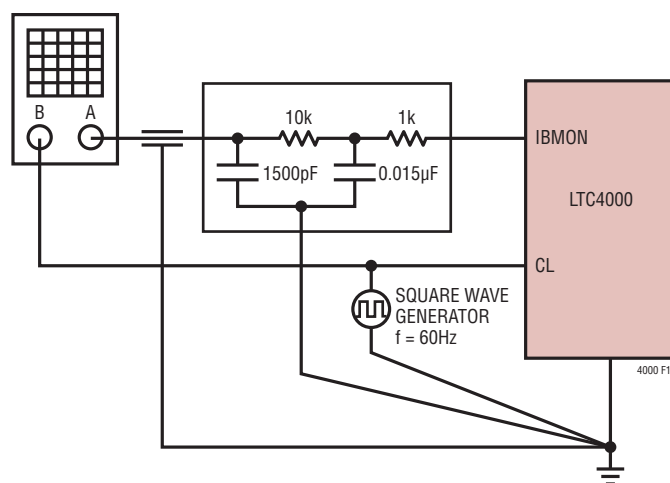

Figure 15. Charge Current Regulation Loop Compensation Setup
- For compensation, the procedure described in the empirical loop compensation section is followed. As recommended, first a $1\mu F$ C_C and $10k$ R_C is used, which sets all the loops to be stable. For an example of typical transient responses, the charge current regulation loop when V_{OFB} is regulated to $V_{OUT(INST_ON)}$ is used here. Figure 15 shows the recommended setup to inject a DC-coupled charge current variation into this particular loop. The input to the CL pin is a square wave at 70Hz with the low level set at 120mV and the high level set at 130mV, corresponding to a 1.2A and 1.3A charge current (100mA charge current step). Therefore, in this particular example the trickle charge current regulation stability is examined. Note that the nominal trickle charge current in this example is programmed at 1.25A ($R_{CL} = 24.9k\Omega$).